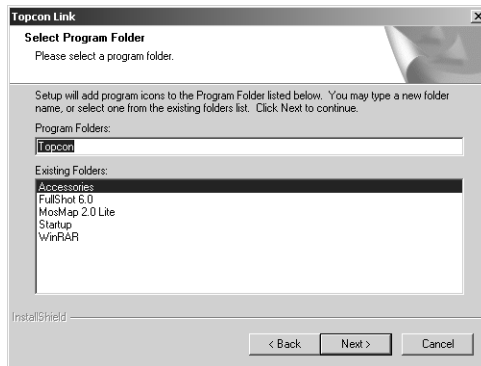

Figure 1-4. Select Program Folder
- On the *Select Program Folder* dialog box, select a current folder or type a new program folder name for Topcon Link (Figure 1-4). Then click **Next**.